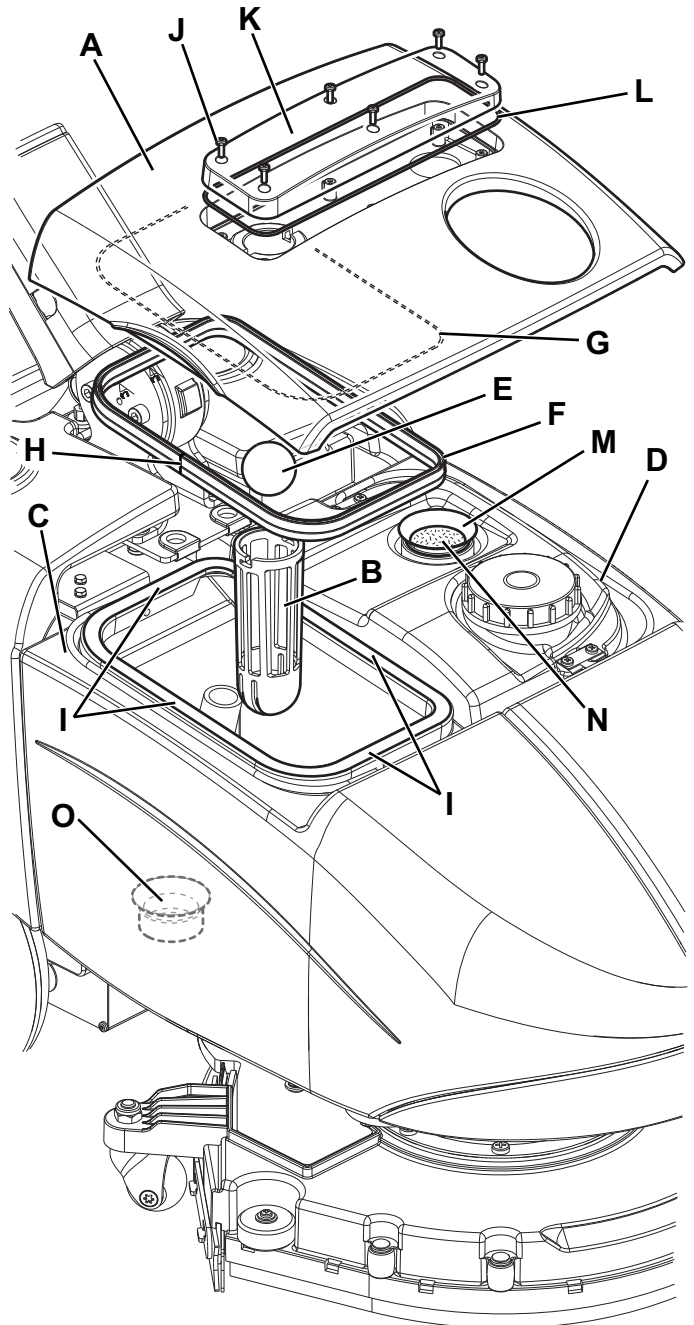

Figure 6
2. Turn the knob (32) to "0" and disconnect the battery.
3. Lift the cover (A, Fig. 6), then clean and wash the cover and the vacuum grid (B) with clean water. Drain the water from the tanks (C and D) and clean them.
4. If necessary, disengage the grid (B) by turning it and remove the float (E), then clean with care and reinstall.
5. Check the recovery tank cover gasket (F) for integrity.
3. Open the cover (A, Fig. 6) and check the vacuum system motor gasket (M) for integrity.